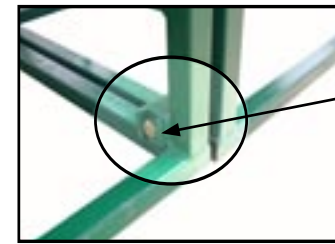

Fig. 34
- 2- Assemble both bridges together using the appropriate bolts and nuts (fig. 34). See fig. 37 for a detailed description of the bolt assembly.